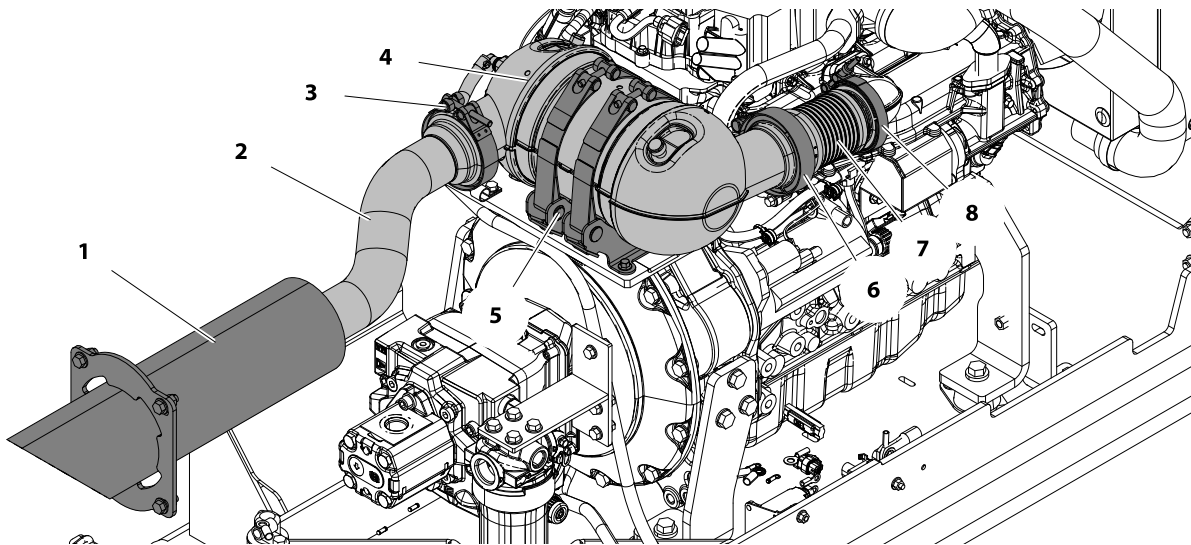

Figure 3-50. Exhaust System (Deutz Engine)
2. Remove exhaust system and pumps (refer to Figure 3-50. and Figure 3-66.).
3. Remove the four bolts (2) and washers to remove the muffler mounting bracket (1) from the pump coupling (4).
4. Remove the eight coupling bolts (5) to remove the pump coupling from the engine